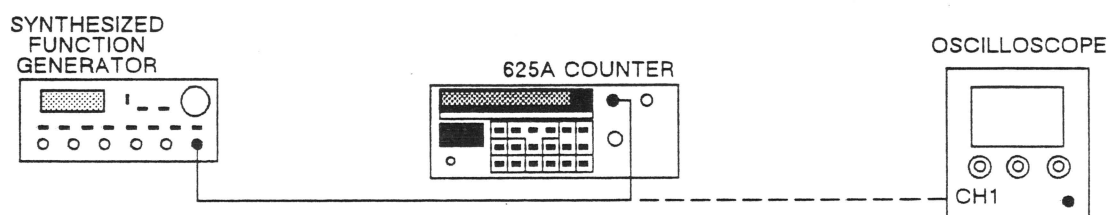

Figure 5-2. Band 1 Range and Sensitivity Test Setup (10 Hz to 10 MHz).
1. Connect equipment as shown in Figure 5-2.